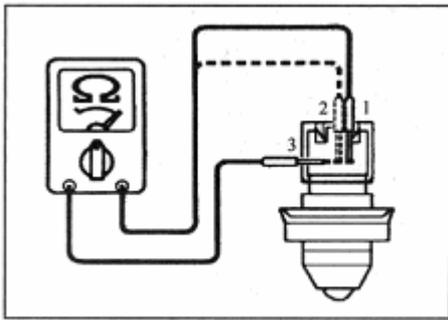

Fig 20-119
- (1) After holding the power window switch "UP" position and closing window completely; operate switch continuously for 10 seconds or longer
- (2) Withdraw the hand and press "DOWN" position of power window switch at the same time, if the window down in 60 seconds, can judge the circuit breaker right.
3. Door switch inspection as Fig 20-119